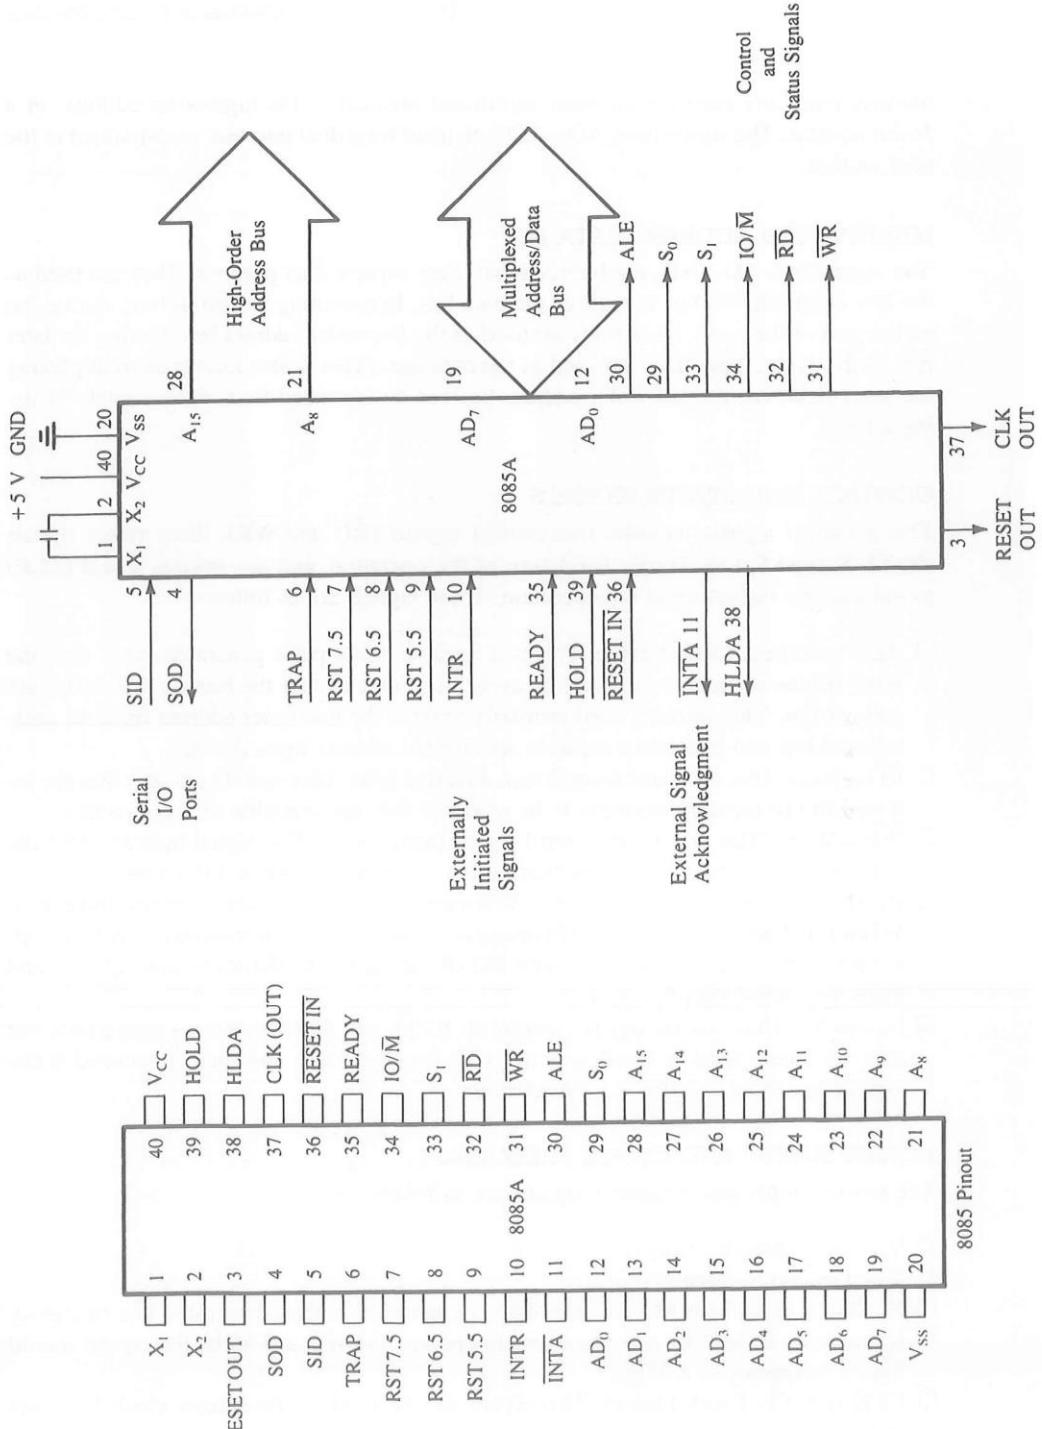

FIGURE 4.1
Figure 4.1 shows the logic pinout of the 8085 microprocessor. All the signals can be classified into six groups: (1) address bus, (2) data bus, (3) control and status signals, (4) power supply and frequency signals, (5) externally initiated signals, and (6) serial I/O ports.